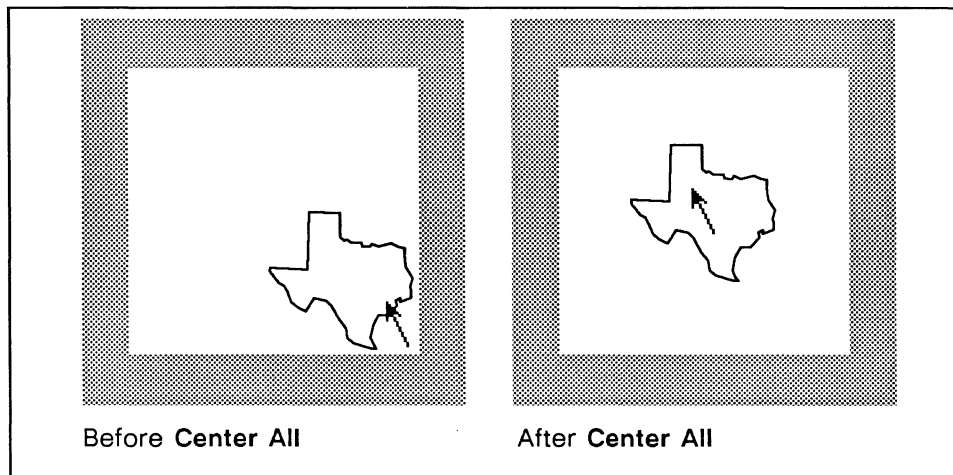

Figure 19-31. Effects of Center All
**Center All** repositions the diagram so that the point which is under the cursor when the command is executed is moved to the center of the frame (Figure 19-31).